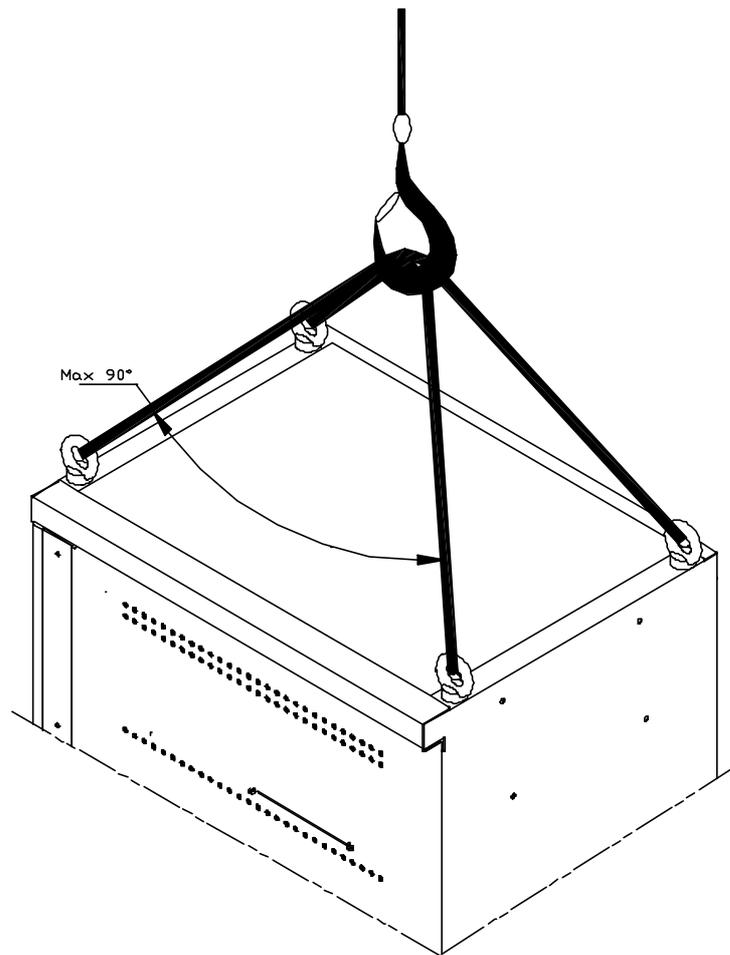

Figure 6 Hoisting of the heavy objects
- The angle between the straps at the point where they are attached to the lifting hook should not be greater than 90° to prevent them from getting broken, as shown in Figure 6.